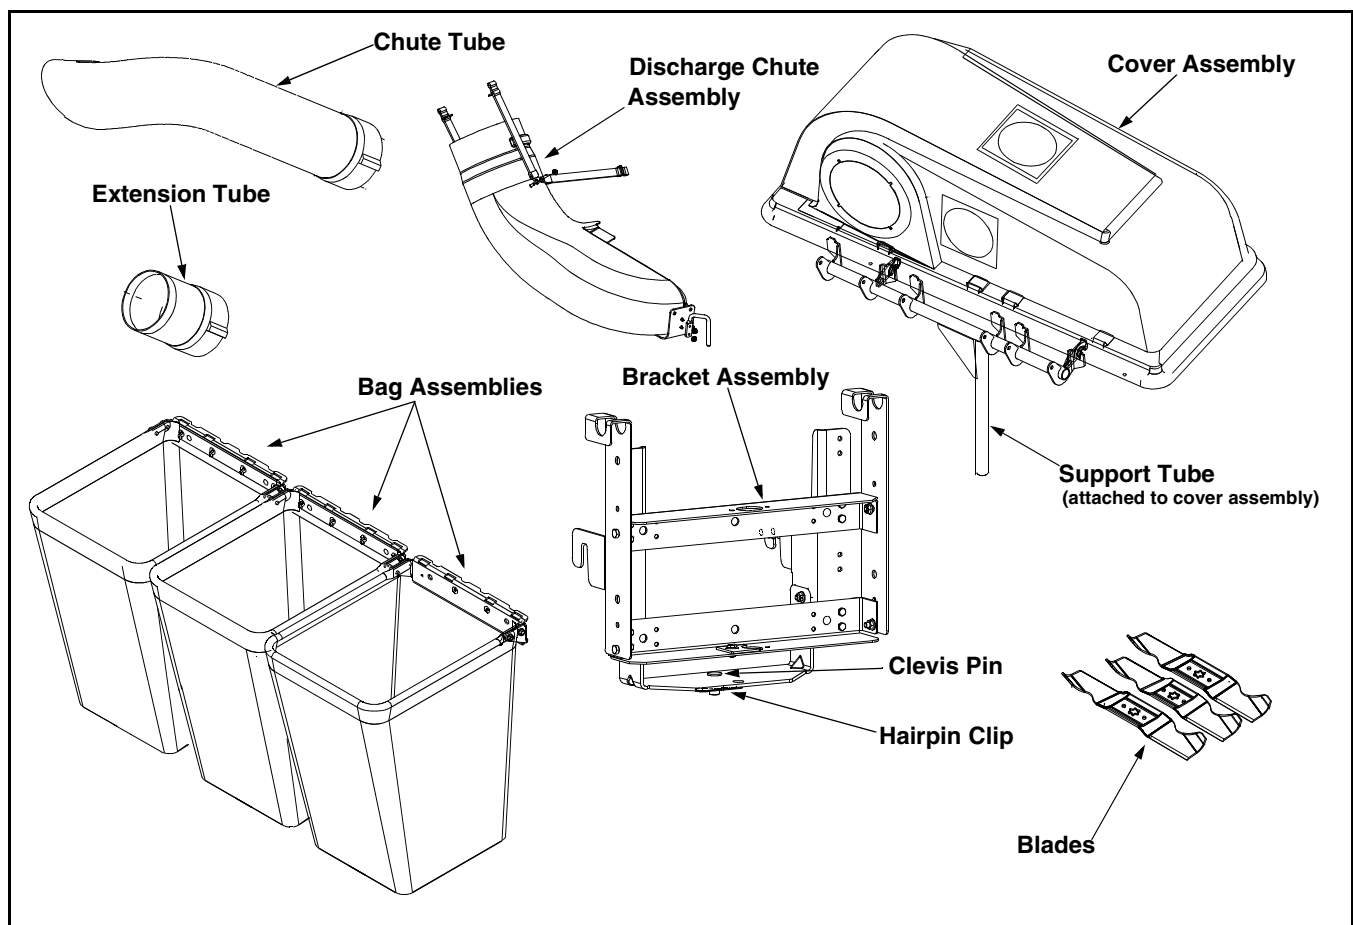
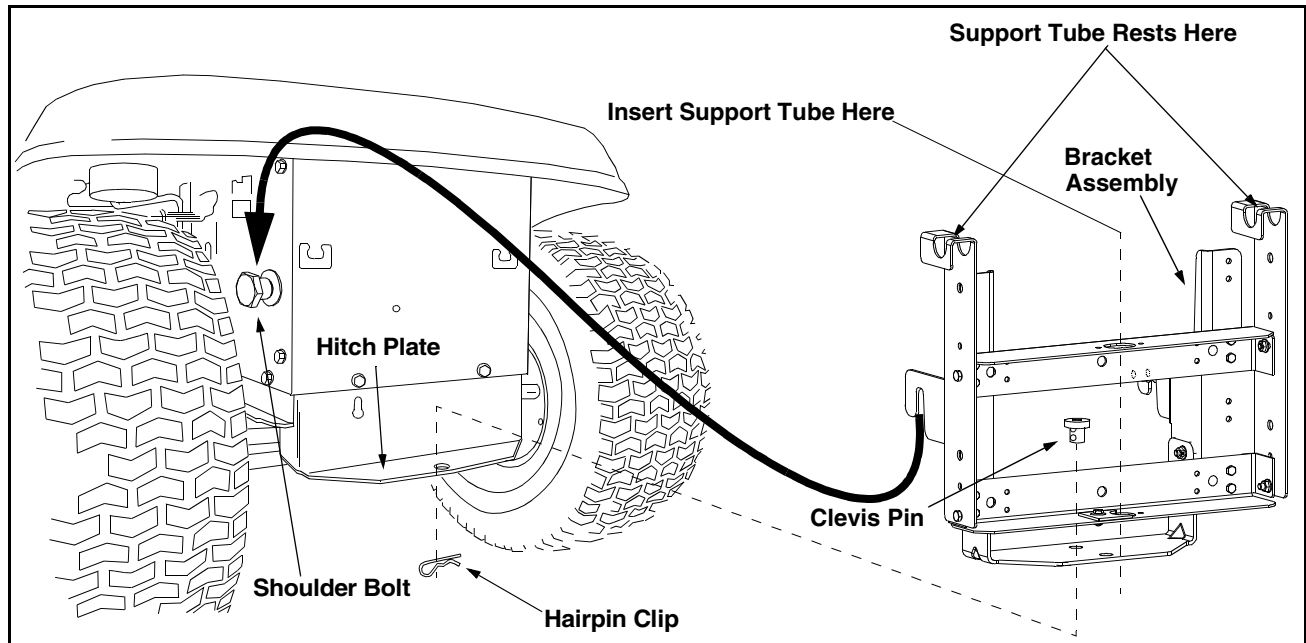

Figure 1
Figure 2
Before beginning installation, remove all parts from the carton to make sure everything is present. Carton contents are listed below and shown in Figure 1. Hardware part number are shown in parentheses.
- Remove the hairpin clip and clevis pin from the hole in the rear of the bracket assembly. Refer to Figure 1
- Position the hooked ends of the bracket assembly to the outside of the hitch plate and over the shoulder bolts. See Figure 2.
- Reinsert the clevis pin through the aligned holes in both the bracket assembly and the hitch plate. Affix with the hairpin clip. See Figure 2.
- Place the cover assembly's support tube (refer to Figure 1) in position on the rear of unit by sliding the support tube down through the holes in the center of the bracket assembly. Refer to Figure 2.
- Place the cover assembly in position so that the support tube rests on both sides of the bracket assembly. Refer to Figure 2.